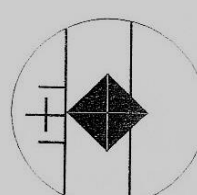

Fig.8
- 3.4.13 Rotate the left drum wheel to make the inner side of the LEFT graduated line tangent to the diagonal line of the indentation, See Fig 8.